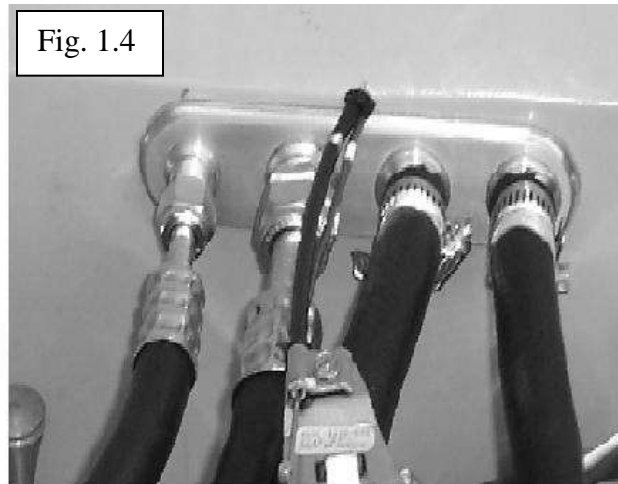

Fig. 1.4
- 10) If you are using a bulkhead fitting on the firewall mount the evaporator unit first then find an area for the bulkhead fitting on the firewall. Mark where the bulkhead fitting will mount then run the hoses to that point on the firewall. If the hoses are not kinked, and out of the way the bulkhead will be ok to mount. The bulkhead can be mounted at your discretion. We normally mount the bulkhead during step six. It is better to have all of the components in the vehicle before cutting holes into the firewall. Figure 1.4